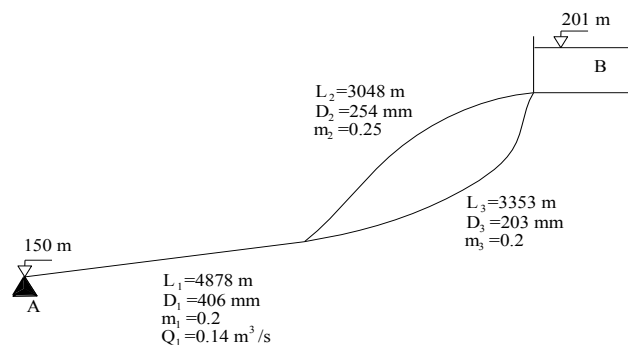

Figure 7.15
**Problem 7.15:** In the system shown in Fig.7.15 water is pumped from A to reservoir B, find the power of the pump and draw the energy grade line of the system. The pipe length, discharge pumped from the pump, diameters of the pipes, and Kutter numbers were given in the figure.